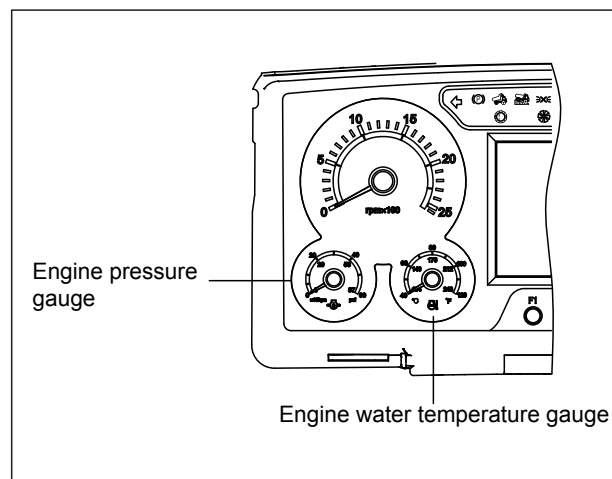

Fig 4.19
8.Check the engine oil pressure gauge. Within 10 to 15 seconds at engine idle,the gauge needle should rise into the white zone. If the needle does not rise within 15 seconds, shut off the engine and do not operate until the fault is identified and corrected. (see Fig 4-19).
immediately.(see Fig 4-19).